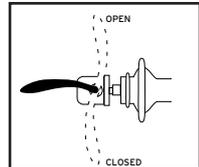

Figure 32- Lever positions
1. Move the quick-release lever to the **OPEN** position (Figure 32) and set the wheel so it firmly touches the inside of the fork ends.